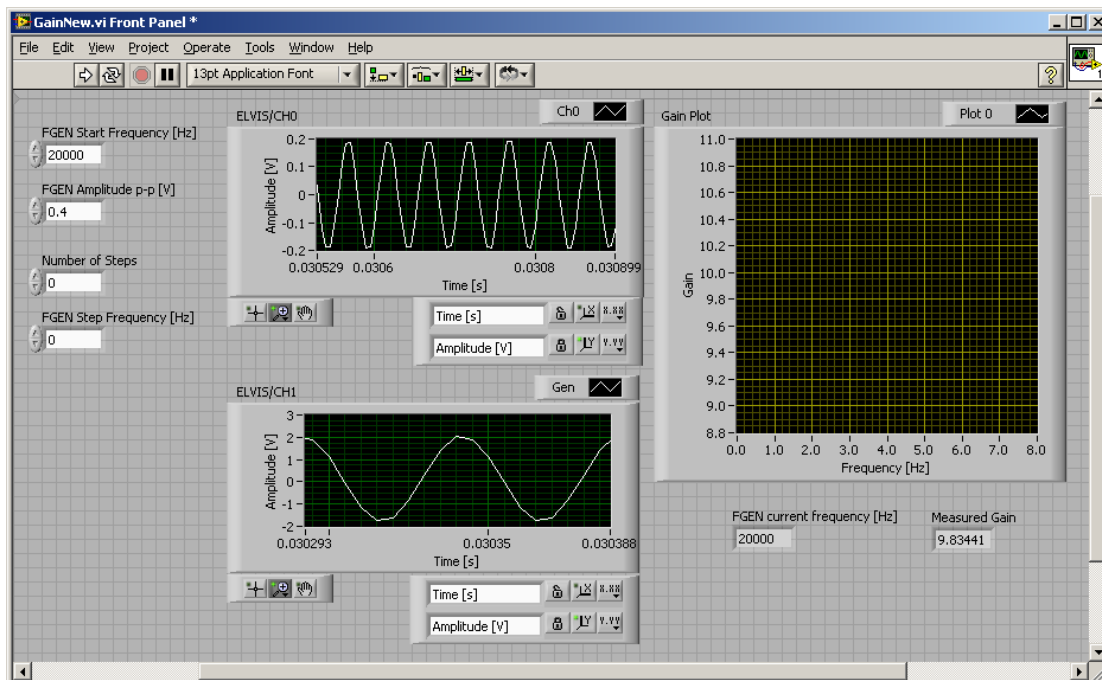

Figure 8-1
- Re-arrange the elements as necessary. You should end up with something like Figure 8-1.